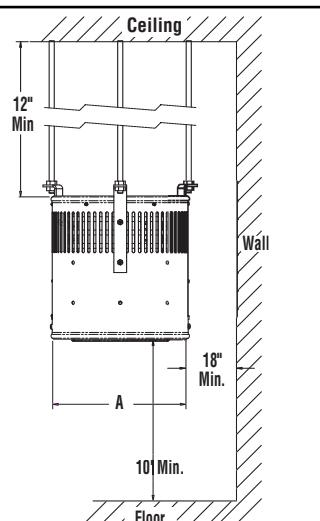

Figure 2
- A. It is recommended that heater only be used with ceiling heights of 12 feet or greater. Minimum spacing to ceiling is 12 inches, use 1/2" thread stock (supplied by others) as shown in Figure 2.
- B. Minimum mounting height is 10 feet from floor to bottom of heater (Figure 2)
- A. Side of case to walls 18". (See Figure 2.)